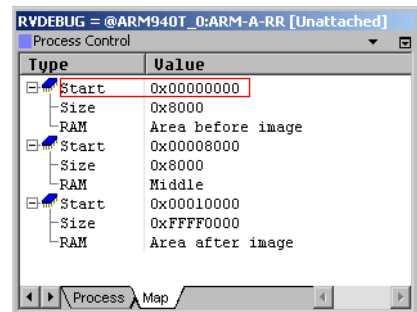

Figure 6-2 Memory mapped
10. Click **OK** to confirm your changes and update the Process Control **Map** tab, shown in Figure 6-2.